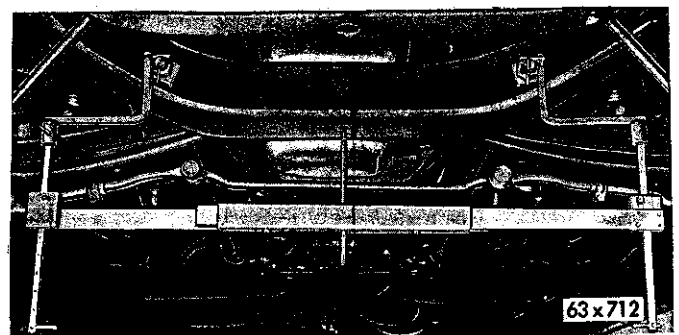

Fig. 12—Front Alignment Gauge Installed
(1) Remove the cotter pins from the lower control arm shafts and position the 36 inch gauge on the shaft nuts, as shown in Figure 12 and 13.